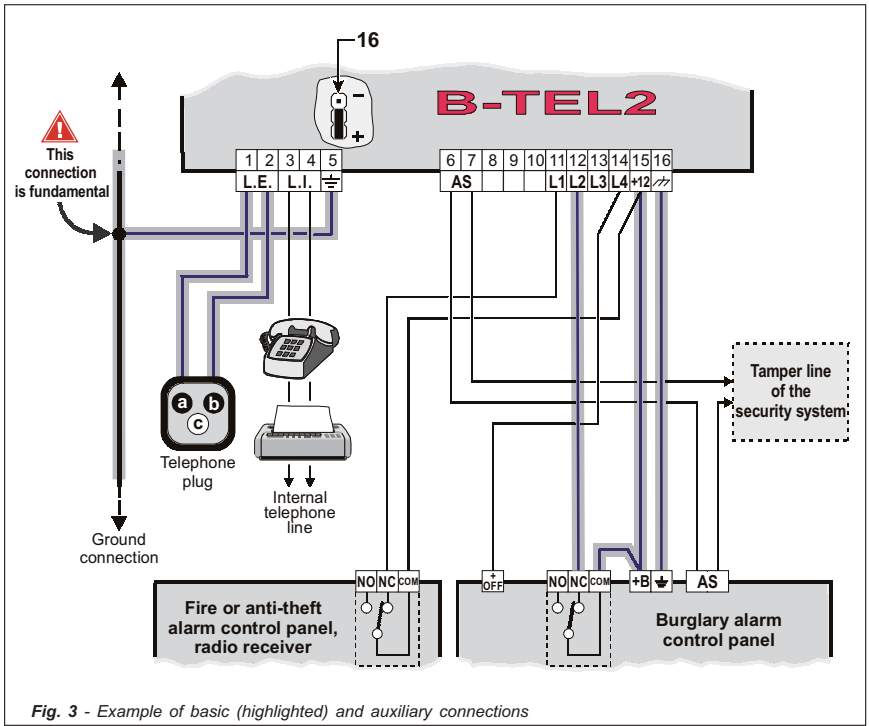

Fig. 3 - Example of basic (highlighted) and auxiliary connections
The basic connections are necessary for dialer function. They are illustrated, with the channels highlighted, in Figure 3. In the connection example, alarm channel L1 is connected to the normally closed contact (NC) of the burglary system and receives, under normal conditions, the positive input voltage.
The dialer does not require auxiliary connections in order to function. However, these connections provide many useful options. All auxiliary connections are shown in Figure 3 and described in the following paragraphs.
Tamper - Connection to tamper line terminals allows detection of possible attempts to tamper with the dialer box. In Figure 3, these terminals are connected in series to the security system tamper line.